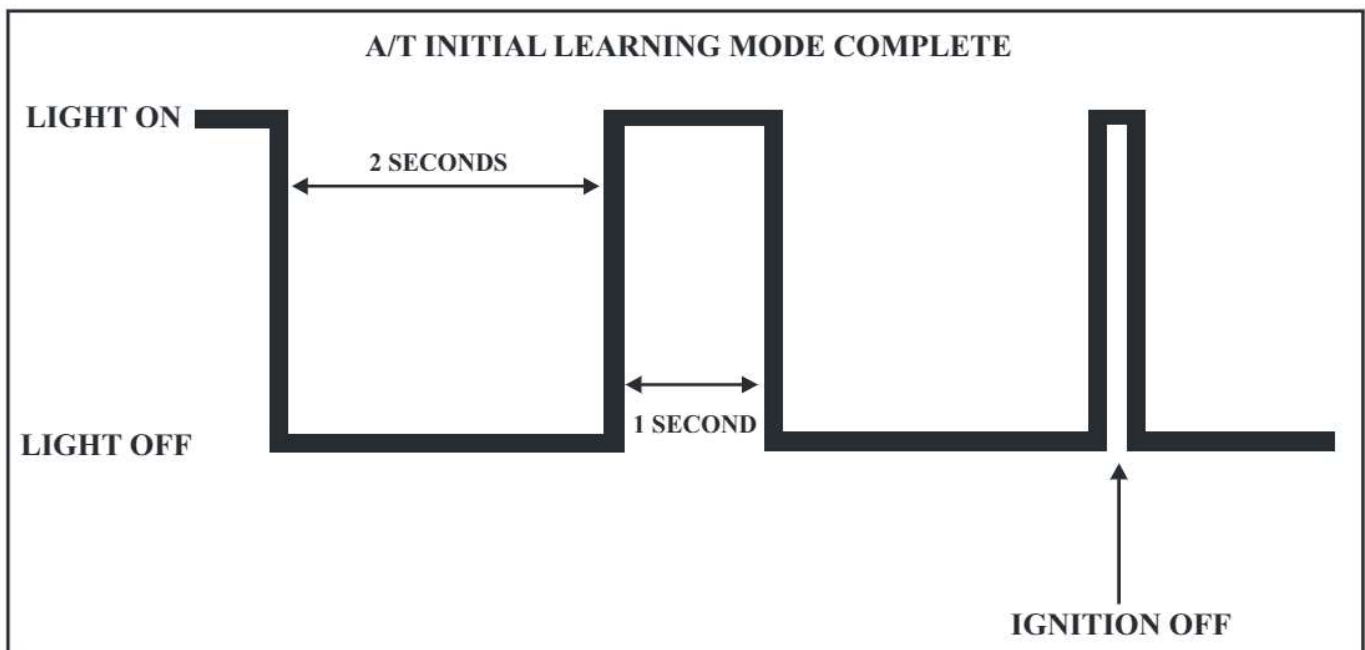

Figure 92
- 3 - If the A/T oil temperature warning lamp goes ON or OFF for 2 seconds, then goes ON for 1 second, Refer to Figure 92, idle the engine.